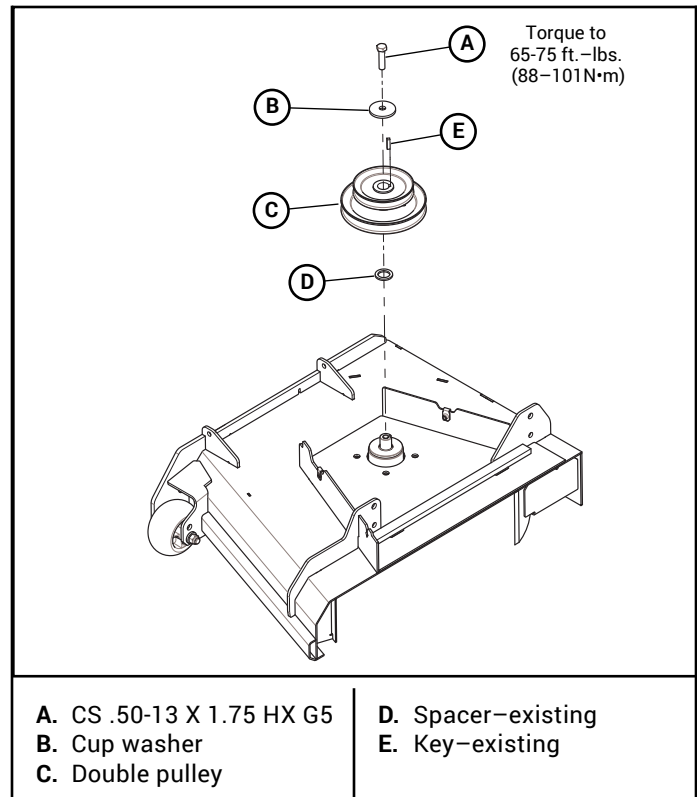

Figure 3-29
5. Replace the pulley with the double pulley and place the new cup washer between the head of the new bolt and the drive pulley. Thread the cup washer and bolt assembly into the spindle shaft. Torque the bolt to 65–75 ft.-lbs (88–101N•m). Figure 3-29